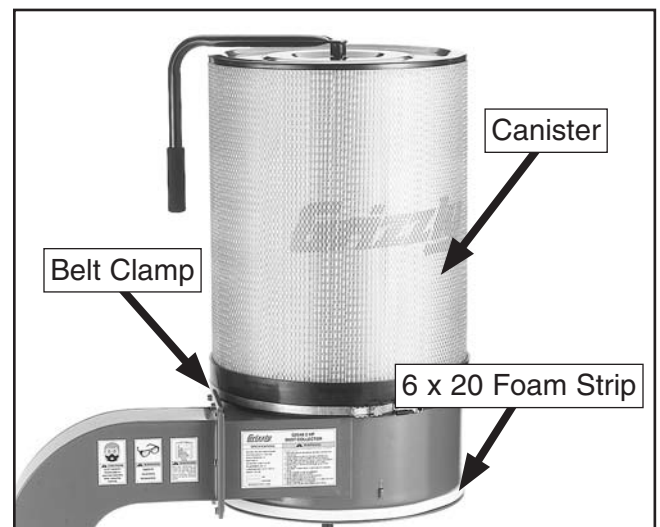

Figure 20. Canister installed.
11. Position the belt clamp around the base of the canister, place the canister over the collector (as shown in **Figure 20**), then tighten the belt clamp so it evenly compresses against the wide foam strip.
- Apply the 6 x 20mm foam strip to the bottom of the collector, then trim the excess and evenly match the ends (see **Figure 20**).